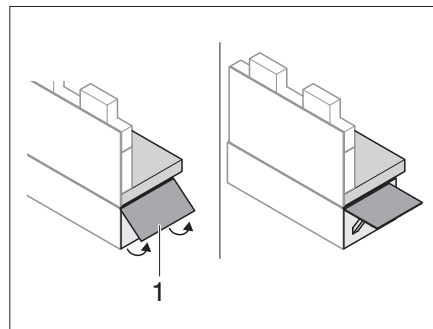

Fig. 133 Folding out bench seat extension
- Fold up bench seat extension (Fig. 133,1).
- Slide in the release button and fold in the bench seat extension (Fig. 133,1).